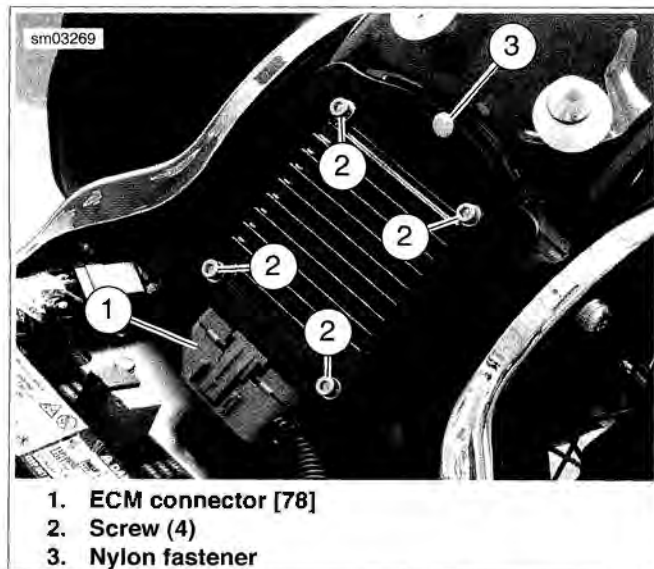

Figure 2-108. ECM Mount
6. See Figure 2-108. Remove nylon fastener (3) from electrical box.
4. See Figure 2-108. Install nylon fastener (3) into electrical box (2) and fender. Install saddlebags if equipped.